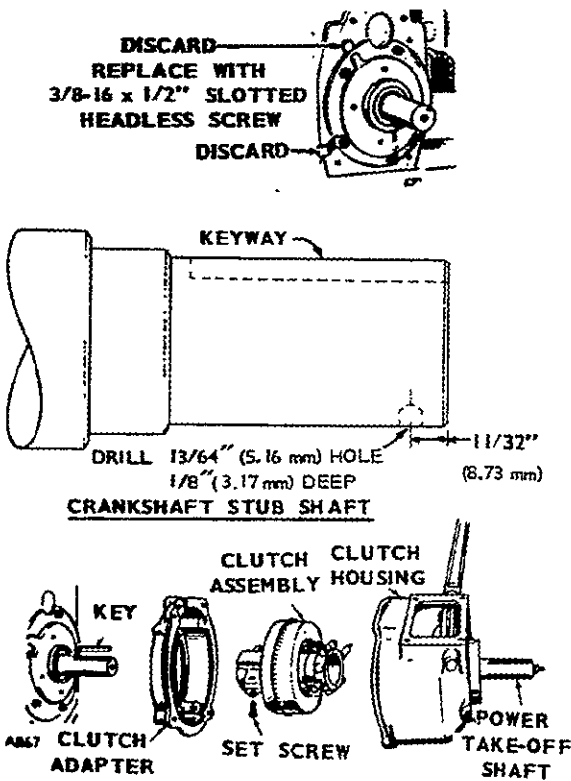

FIGURE 6. CLUTCH INSTALLATION
**Clutch Installation:** A Rockford Clutch can be installed at the factory or in the field. Install the clutch according to the following instructions and Figure 6.